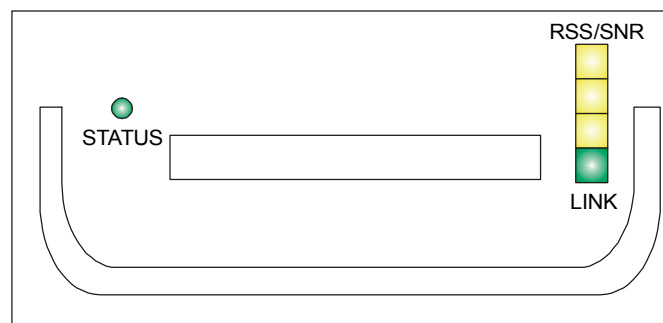

Figure 3-3. RT LEDs
3. At the remote site, align the RT to face the local RT. (Align visually or by using a map and a compass). Use the RSS/SNR, LINK and STATUS LEDs at the base of the RT for the link quality indication (see Figure 3-3, Table 3-1 and Table 3-2):